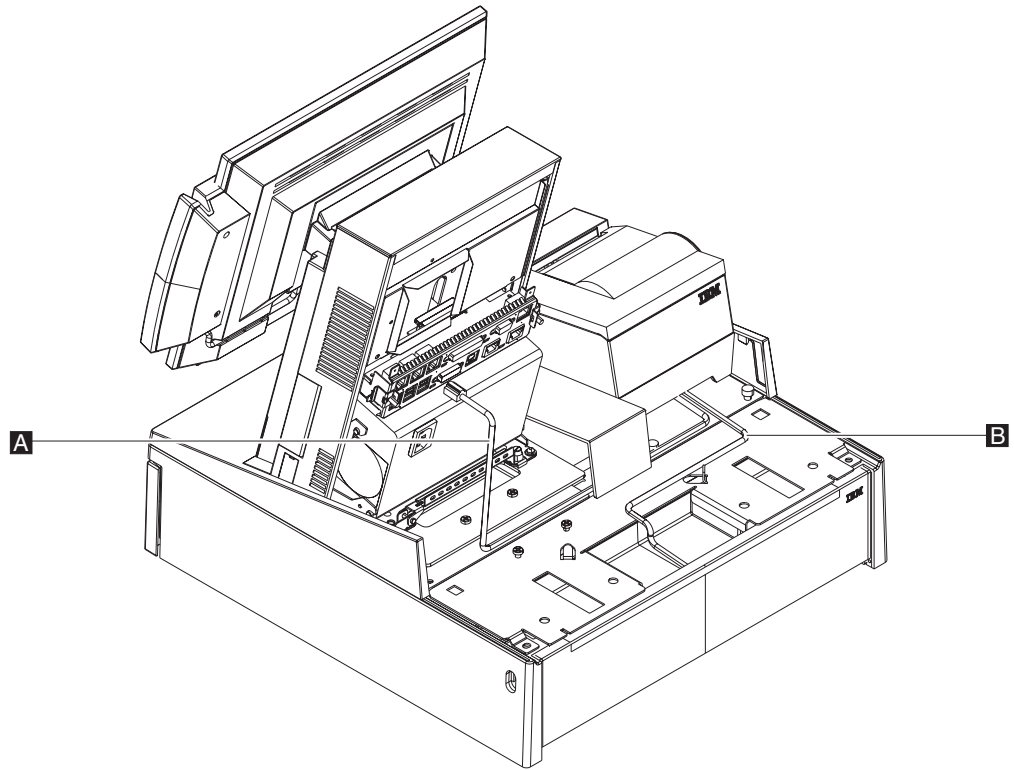

Figure 101. 4610 SureMark printer cable routing on a non-keyboard integration tray
4. Route the RS-232 cable **A** to the rear connector panel of the system unit as show in Figure 101 on page 125 and plug it into one of the three standard serial ports on the system unit.
5. Route the AC power cord **B** toward the system and out through the hole in the integration tray, as shown in Figure 101 on page 125.